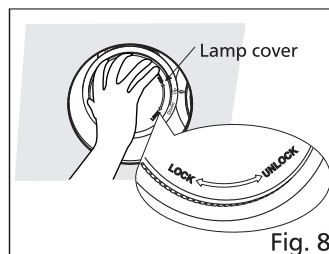

Fig. 8
11. Unlock the lamp cover.(Fig.8)
2. Unlock the lamp cover. (Fig. 8)